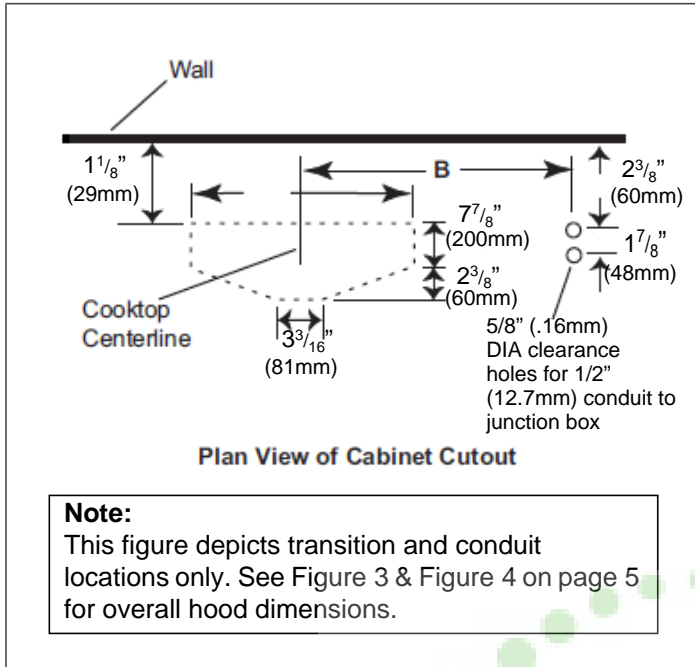
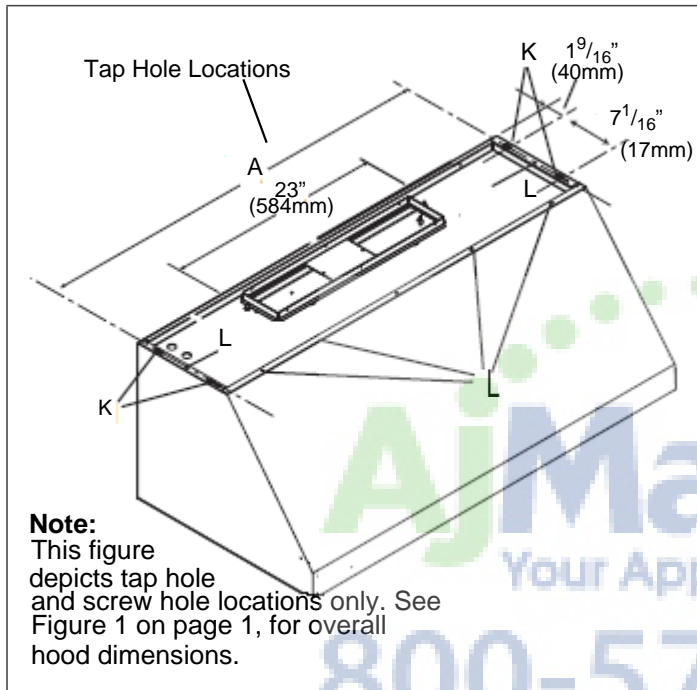

Figure 8: Transition and Conduit Locations
Figure 14: Tap Hole and Screw Hole Locations
Figure 14 shows the (4) screw holes labeled “K” used for mounting the hood to the bottom of the cabinet. Make sure both knockouts have been removed.
1. In the base of the cabinet, drill 1/8" (3mm) tap holes (Dimension A in Figure 14 and in Table 2,). Screw in (4) 1" (25mm) screws (provided with hood) leaving 1/4" (6mm) exposed to hang hood on.
2. If the hood is installed for vertical discharge, use Figure 14 to create clearance holes for passage of the transition and conduit (see Dimension B in Figure 8 and in Table 2 on the current page).
5. From inside of hood, insert screws supplied. Drill through holes, use 5/8" (16mm) screws supplied, (1) on each side and (4) along the front, into bottom of the cabinet. See screw holes labeled "L" in Figure 14.
Table 2: Centerline Hole Dimensions for Figure 14 & Figure 8